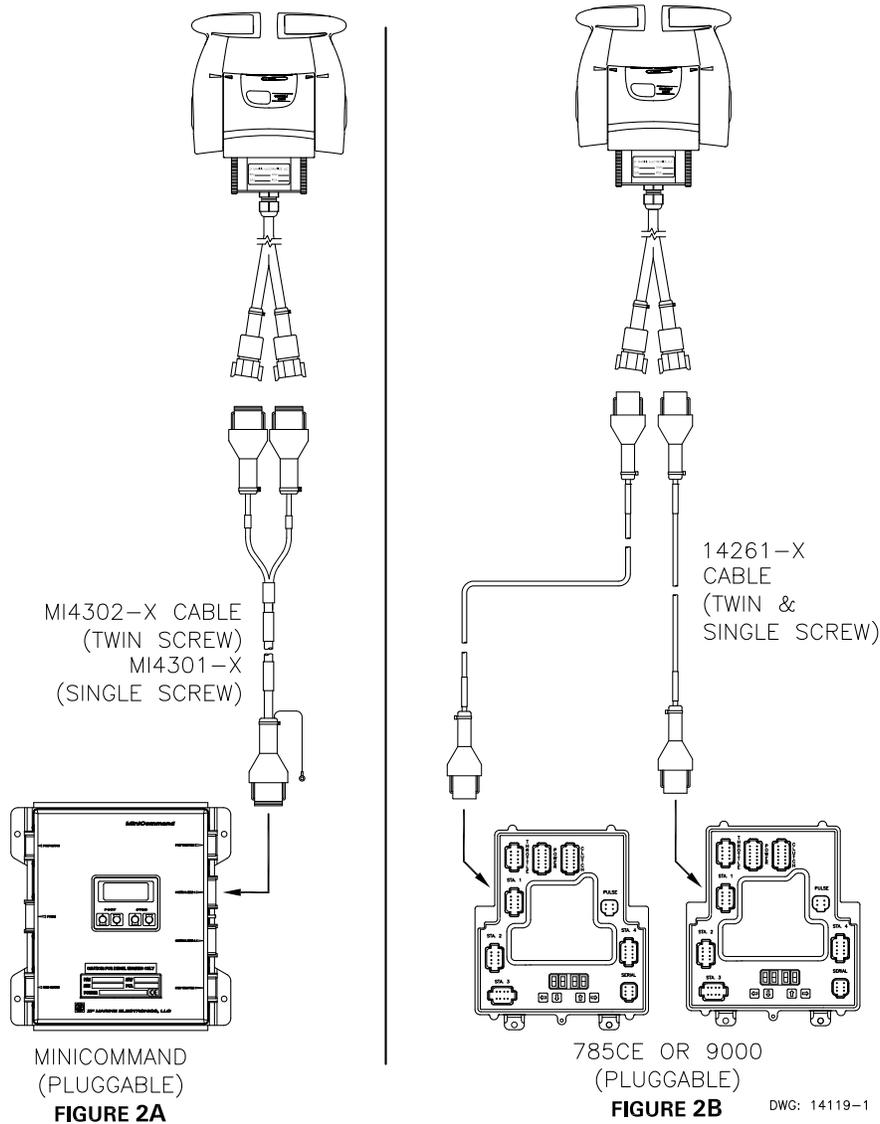

Figure MMC-337-1: Cable / Harness Connections - Pluggable Drawing 14119-1
Pluggable Micro Commander/Clear Command	(1) Control Head wire harness per lever. See Figure MMC-337-1: Cable / Harness Connections - Pluggable Drawing 14119-1
CruiseCommand	(1) Control Head wire harness per lever. See Figure MMC-337-1: Cable / Harness Connections - Pluggable Drawing 14119-1
MiniCommand	(1) Control Head wire harness per Control Head. See Figure MMC-337-1: Cable / Harness Connections - Pluggable Drawing 14119-1